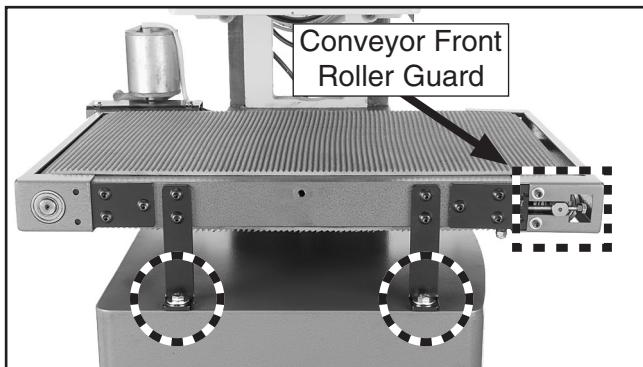

Figure 10. Mounting bolts and conveyor front roller guard (left side).
- With an assistant to steady the sanding assembly on the forks, lift and move it into position over the cabinet stand so that the mounting holes line up (see **Figures 10 & 11**).
- Remove the four 10-24 x 3/8" cap screws and flat washers from the front of the conveyor, slide the conveyor front roller guard onto the conveyor, and secure it with the cap screws and flat washers (see **Figure 10**).